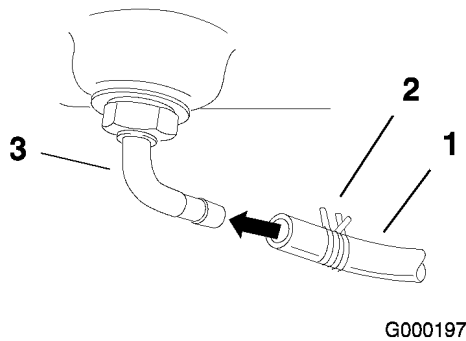

Figure 8
- Slide the hose clamp onto the fuel line (Figure 8).
- Push the fuel line onto the fuel tank connection and secure it with a hose clamp (Figure 8).